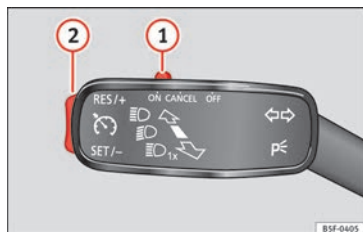

Fig. 47 On the left of the steering column: switches and controls for operating the CCS
- Switching on the CCS: Move switch » **Fig. 47** ① to **ON**. The system is on. If no speed has been programmed, the system will not control it.
- Activating the CCS: Press button » **Fig. 47** ② in the **SET/-** area. The current speed is memorised and controlled.
- Temporarily switching off the CCS: Move switch » **Fig. 47** ① to **CANCEL** or push the brake. The cruise control system is switched off temporarily.
- Reactivating the CCS: Press button » **Fig. 47** ② in **RES/+**. The memorised speed is saved and controlled again.
- Increasing stored speed during CCS regulation: press button ② in **RES/+**. The vehicle accelerates until the new stored speed.
- Reducing stored speed during CCS regulation: press button ② in **SET/-** to lower the speed by 1 km/h (1 mph). Speed is reduced until reaching the new stored speed.
- Switching off the CCS: Move switch » **Fig. 47** ① to **OFF**. The system is disconnected and the memorised speed is deleted.